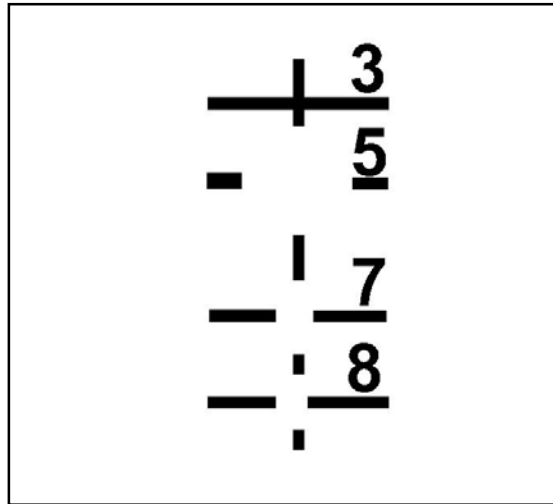

Figure G-51. Illuminated reticle.
f. **Illuminating the Reticle.** For low light operations, the reticle can be illuminated to show the 300-, 500-, 700-, and 800-meter aiming marks (Figure G-51). The sight is equipped with variable intensity LED illumination of the reticle. It has 10 positions: one OFF position and 9 positions for different reticle intensity settings.